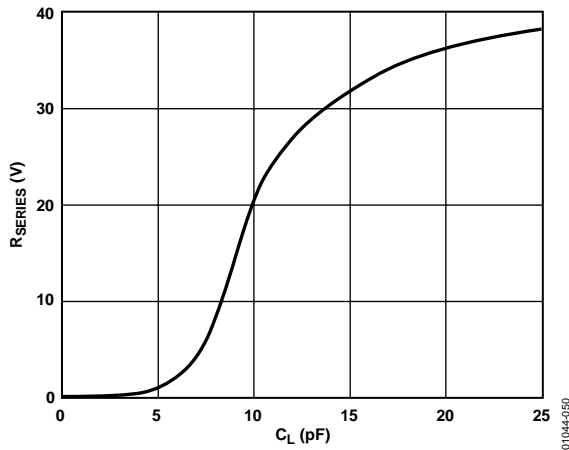

Figure 51. Recommended RSERIES vs. Capacitive Load
Figure 51 shows the optimum value for RSERIES vs. capacitive load (CL). It is worth noting that the frequency response of the circuit when driving large capacitive loads is dominated by the passive roll-off of RSERIES and CL.